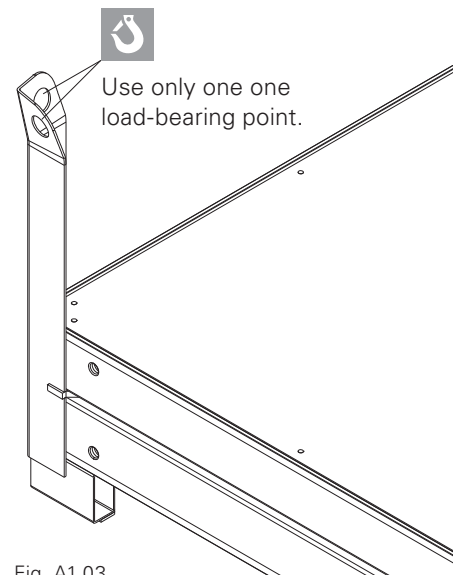

Fig. A1.03
2. Place the second panel with the formlining facing upwards in the stacking device. (Fig. A1.03)